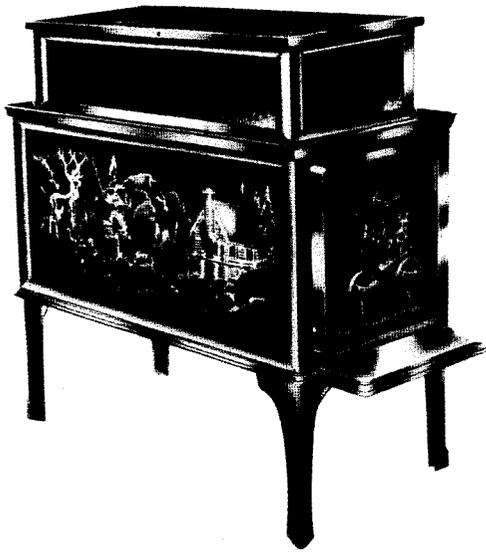

Fig. 1. Woodsman Model 24.
1. **Atlanta Stove Works, Inc.** (manufacturer), P.O. Box 5254, Atlanta, GA 30307. The Woodsman (Fig. 1, Table 1) is an American version of the Jøtul 118. It is also manufactured by the Birmingham Stove and Range Co., a sister company of the Atlanta Stove Works, under the name "Nordic." It has three manual draft controls on the front door and a damper-control lever in the back, which is quite unusual for a Scandinavian-type stove. The damper allows the smoke and gases to exit directly instead of around the horizontal baffle, which extends two-thirds of the way to the front of the stove. There are also free-hanging cast-iron liners along the sides. The stove has only 25 parts.